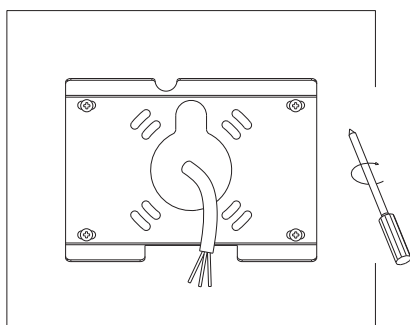

Figure 1-3
- 3.Align mounting bracket with hole; tighten screws.(Figure 1-3)